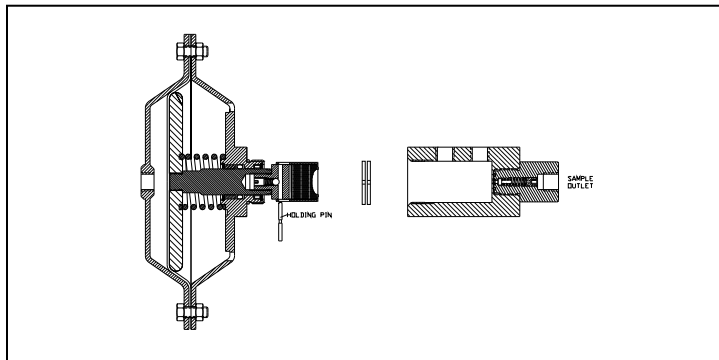

Figure 3
- 3.2.5 Unscrew the diaphragm housing case (Part 3) from the sampler body (Part 12) (also see Figure 3).